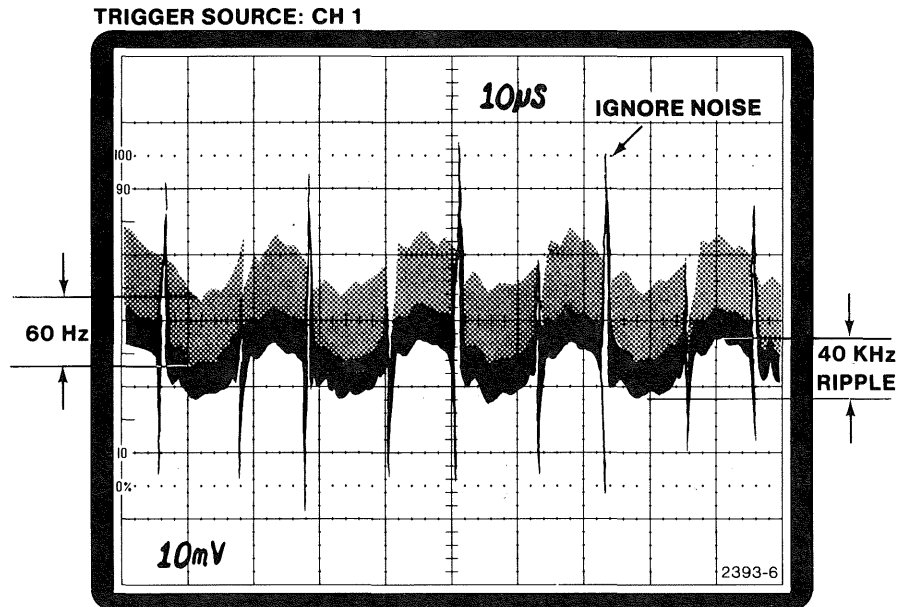
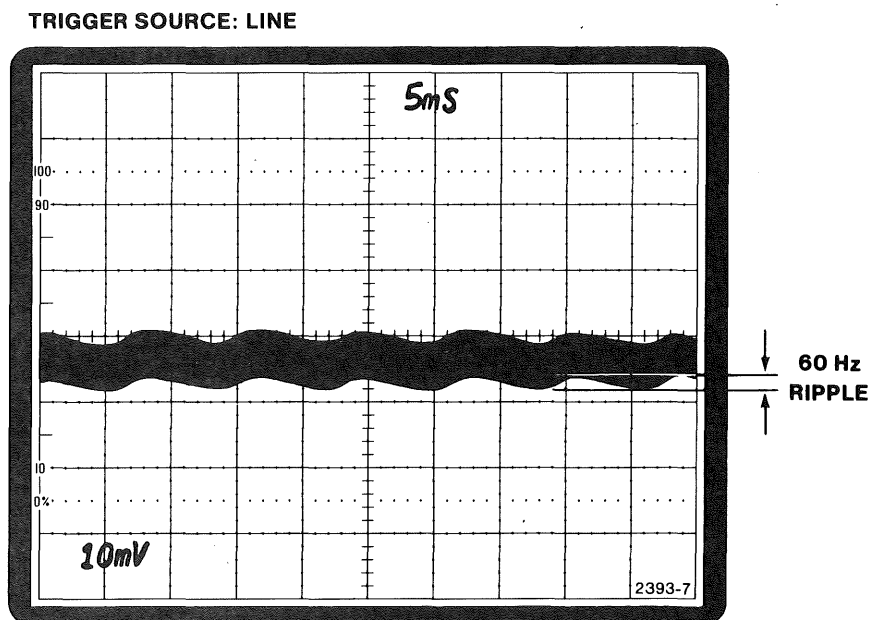

Figure 3-5. Measuring 40 kHz Ripple.
Figure 3-6. Measuring 60 Hz Ripple.
4. Measure the peak-to-peak 40 kHz ripple from the brightest part of the trace (Figure 3-5). The lighter band is caused by 60 Hz ripple. Ignore noise spikes.
^bThe ripple figures are not performance requirements. They are provided solely for the information of the service person. Ignore noise spikes. Refer to Figure 3-5 for all supplies and also to Figure 3-6 for the +55 V supply.
8. Measure the 60 Hz ripple for each channel by reading the peak-to-peak displacement of the band as shown in Figure 3-6. The band is the 40 kHz ripple which you checked in Steps 3 and 4.